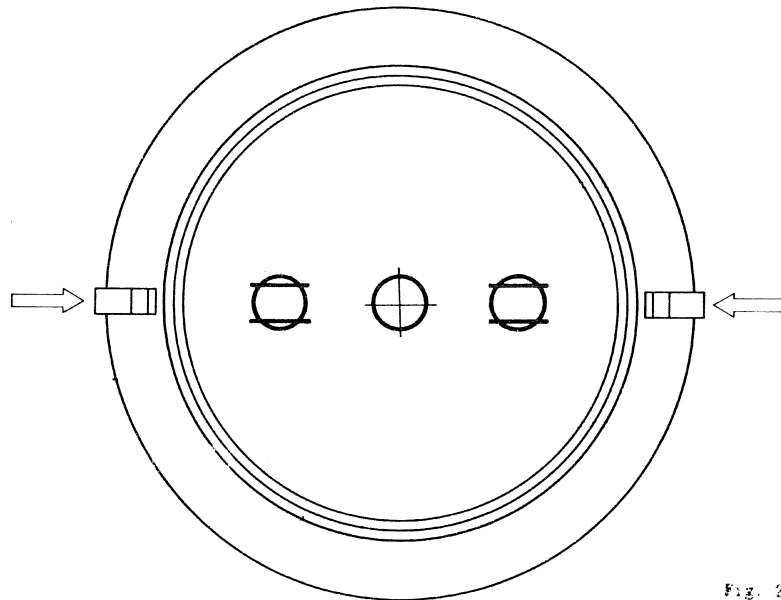

Fig. 23.1
By pushing the two clamping levers towards the centre of the groundglass screen holder, this can be rotated until the four horizontal lines of the groundglass screen are in the centre of the left and right circle (see Fig. 23.1).
- 8.1 Align the plate with the groundglass screen (see Fig. 23.1).